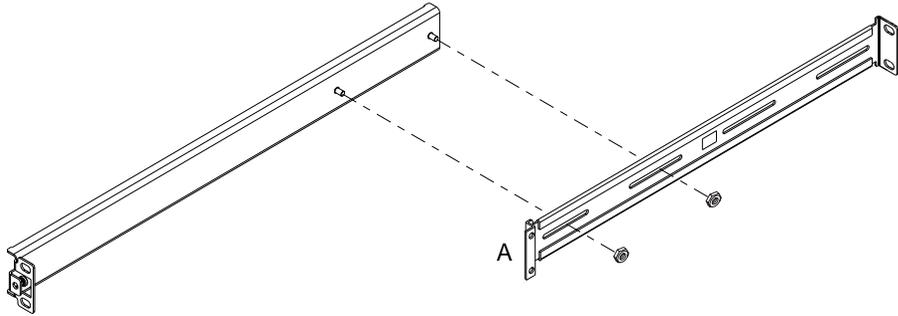

FIGURE 5-8 19-inch Rack Slide Mounts
1. **Position the two parts of the slide so that the double-angled ear (A) is to the front (see FIGURE 5-8).**